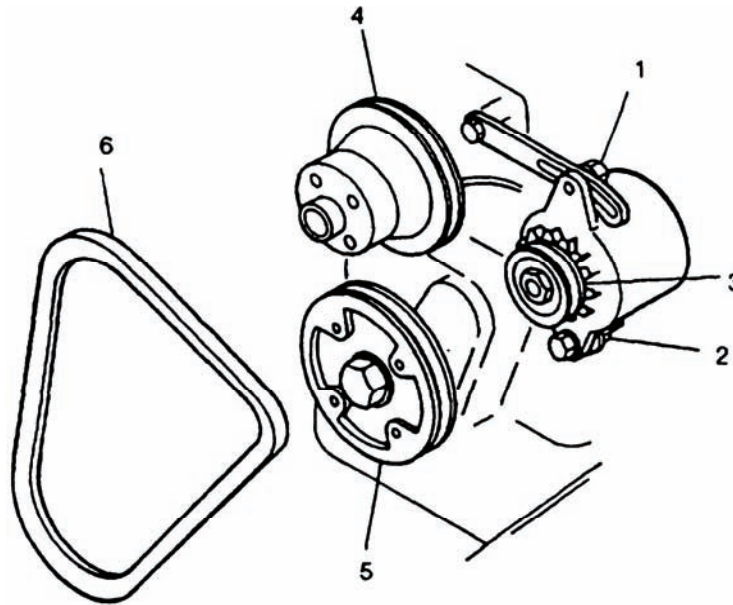

Figure 2-27. Fan Belt.
- d. Inspect fan belt (6, Figure 2-27) for frays, cracks, oil soaking, and other damage.
- c. Check fan belt (6, Figure 2-27) for proper tension using a suitable belt tension gauge. Belt tension shall be 70 pounds.
- d. If fan belt needs adjustment, loosen alternator mounting bolt (1) and nut (2).
- d. Loosen alternator mounting bolt (1, Figure 2-27) and nut (2).
- e. Pivot alternator to relieve tension on fan belt (6) and remove belt (6) from alternator pulley (3), fan pulley (4), and crankshaft pulley (5).
- a. Slip fan belt (6, Figure 2-27) over fan (36, Figure 2-23).
- b. Install belt (6, Figure 2-27) onto alternator pulley (3), fan pulley (4), and crankshaft pulley (5).
- c. Adjust tension on fan belt (6) (paragraph 2-93.2).
- c. Check fan belt (6, Figure 2-27) for proper tension by applying approximately 22 lbf (10 kgf) to middle of one belt span. Measure deflection. Compare deflection to values in Table 2-10.
- a. Slip fan belt (6, Figure 2-27) over fan (43, Figure 2-26).
- c. Adjust tension on fan belt (6) (paragraph 2-94.2).